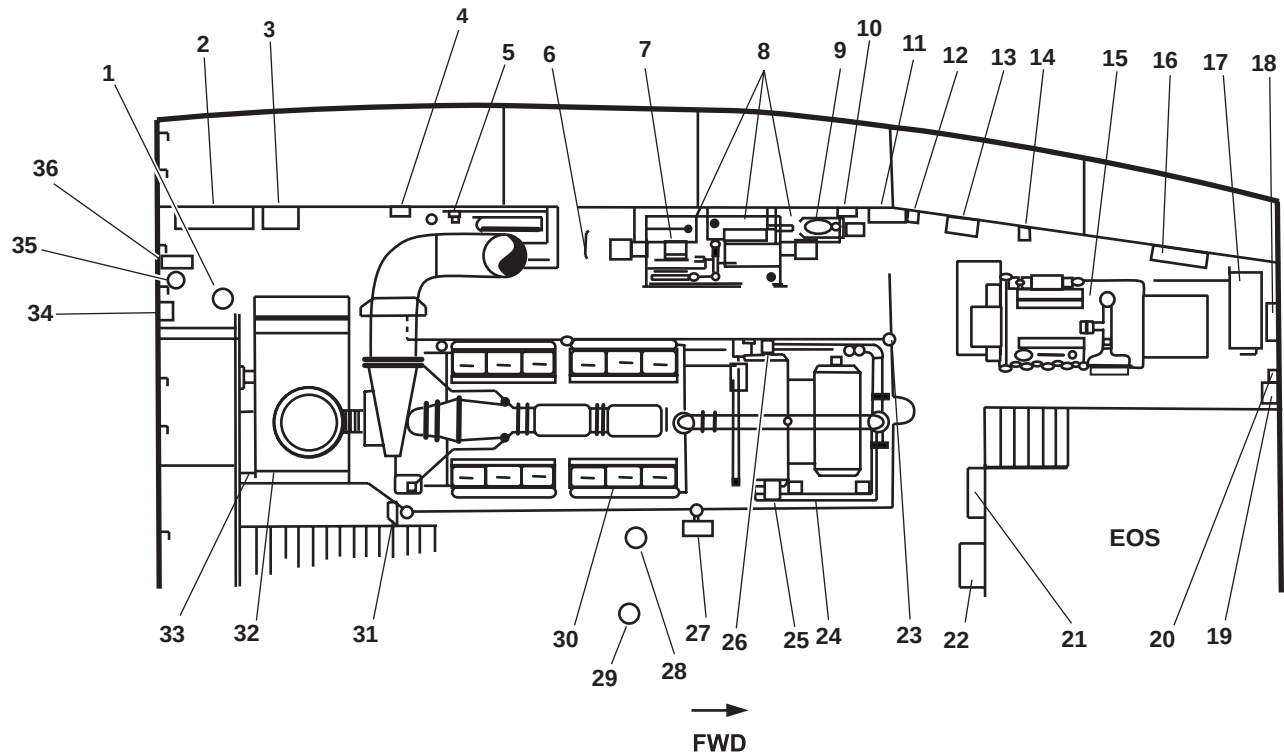

Figure 1. Engine Room, Port Side
1. FM-200 warning light (figure 1, item 1). The FM-200 yellow warning light illuminates when the FM-200 system is activated.
2. Reverse Osmosis Water Purification Unit (ROWPU) battery box (figure 1, item 2). This battery box contains two 12V batteries. The battery bank provides 24 Vdc to the ROWPU to maintain fresh water flush capabilities during vessel layup periods.
3. Drinking fountain (figure 1, item 3). The drinking fountain dispenses cold potable water.
4. ROWPU battery charger (figure 1, item 4). The battery charger maintains the charge of the ROWPU battery bank.
5. Lube oil purifier (figure 1, item 5). The lube oil purifier cleans the lubricating oil for the main engines.
6. Vertical ladder (figure 1, item 6). This ladder provides access to the port fuel oil day tank and the port life boat station on the 02 level.
7. Central hydraulic system hydraulic power unit (figure 1, item 7). The central hydraulic system hydraulic power unit provides hydraulic power for the crane, capstan, anchor windlass, and tow pins. It powers the tow machine when the hydraulic piping is aligned properly.
8. Transformers (figure 1, item 8). Three 440V/120V transformers provide 120V power for the load center distribution panel.
9. Lube oil transfer pump (figure 1, item 9). The lube oil transfer pump is an electrically powered pump used to transfer lube oil within the vessel.
10. Lube oil transfer pump discharge pressure gauge and the lube oil transfer strainer differential pressure gauge (figure 1, item 10). The lube oil transfer pump pressure gauge indicates the discharge pressure of the lube oil transfer pump. The lube oil transfer strainer differential pressure gauge indicates the differential pressure of the strainer.
11. Lube oil manifold (figure 1, item 11). The lube oil manifold provides centralized control of the lube oil piping system.
12. Lube oil transfer pump motor controller (figure 1, item 12). This controller turns the lube oil transfer pump ON and OFF.
13. Lube oil tank level indicator and hand pump (figure 1, item 13). The tank level indicator displays the amount of oil present in the tank. The hydraulic oil hand pump is used to transfer hydraulic oil from the hydraulic oil storage tank.
14. Ship's Service Diesel Generator (SSDG) 2 starting air pressure gauge (figure 1, item 14). This gauge indicates the amount of pressure available to the SSDG 2 starter.
15. SSDG 2 (figure 1, item 15). SSDG 2 is an air-started, fresh water-cooled, diesel engine-driven service generator providing electric power to the main switchboard.
16. Air receiver (figure 1, item 16). The 30 gallon (113.6 liter) air receiver stores air for the control air system.
17. Sewage discharge pump 2 (figure 1, item 17). Sewage discharge pump 2 is an electrically powered pump that pumps the contents of the sewage tank to the sewage shore connection or overboard.
18. Control air dryer (figure 1, item 18). The control air dryer removes moisture from the control air system.
19. Sewage discharge pump 2 motor controller (figure 1, item 19). The sewage discharge pump 2 motor controller turns sewage discharge pump 2 ON and OFF.
20. Sewage discharge pump 2 pressure gauge (figure 1, item 20). This pressure gauge indicates the discharge pressure of sewage discharge pump 2.
21. Engine room distribution panel no. 4 (figure 1, item 21). The engine room distribution panel provides power distribution for engine room equipment.
22. Monitoring system Central Processing Unit (CPU) with 24 volt machinery DC control distribution panel (below) (figure 1, item 22). The monitoring system CPU cabinet contains the central processor for the machinery plant monitoring system. A 24 volt machinery DC control distribution panel provides circuit protection for machinery monitoring, SSDG, 2, FM-200 shutdown, rudder angle, steering gear alarm, pump drive engine, and bow thruster engine.
23. Fire extinguisher (figure 1, item 23). The fire extinguisher is used to extinguish small fires.
24. Engine control panel (figure 1, item 24). This panel provides the controls and status displays for the main engines.
25. Engine alarm horn (figure 1, item 25). The engine alarm horn sounds the engine alarm, indicating various engine conditions and emergencies.
26. Lube oil prime pump and controller (figure 1, item 26). The lube oil prime pump primes the main propulsion engine for operation. Its controller also operates the lube oil pump, permitting the operator to select ON and OFF.
27. Fire station 2 (figure 1, item 27). The firefighting station uses raw water and is equipped with 50 feet (15.24 m) of 1-1/2 inch hose and an all-purpose nozzle.
28. Machinery plant alarm rotating beacon (figure 1, item 28). A green light illuminates and the beacon rotates when the machinery plant alarm is activated.
29. General alarm rotating beacon (above) (figure 1, item 29). A red light illuminates and the beacon rotates when the general alarm is activated.